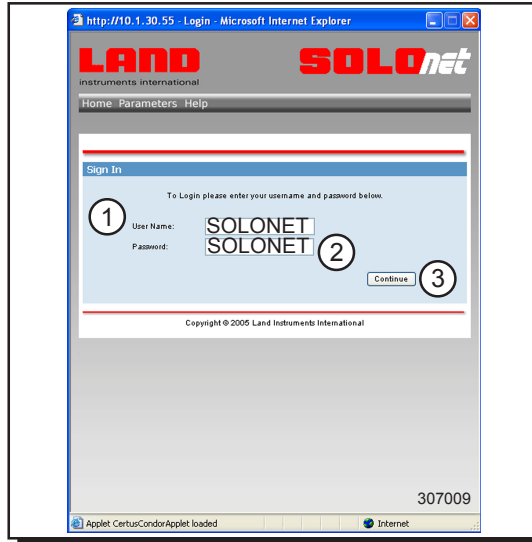
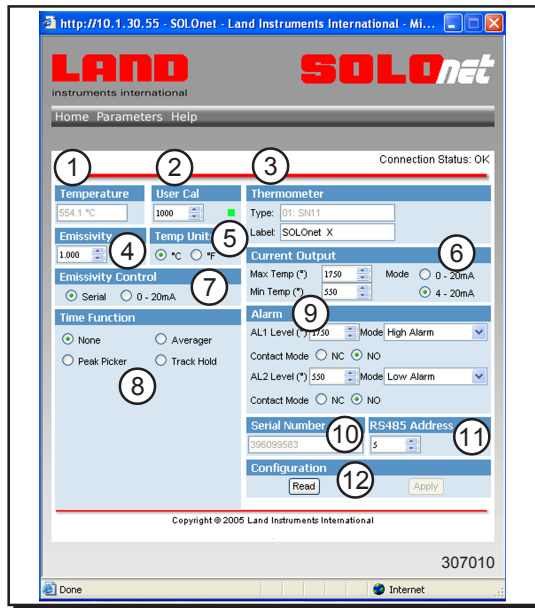

Fig. 9 - **SOLOnet** web interface 'Sign In' screen (User Thermometer Settings).
Fig. 10 - **SOLOnet** web interface 'User Thermometer Settings' screen
- Click to reveal the 'Sign In' screen (see Fig. 9).
- Enter *SOLONET* in the 'User Name' box. ①
- Enter *SOLONET* in the 'Password' box. ②
- Press 'Continue'. ③
- The 'User Thermometer Settings' screen appears (see Fig. 10).